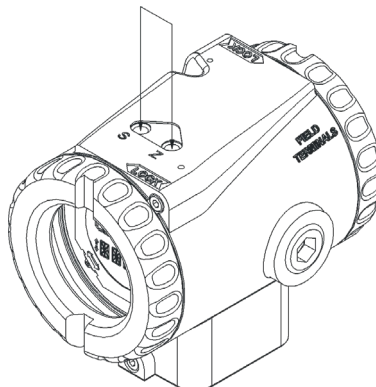

Figure 5.2 – Zero and Span Local Adjustment
Under the identification plate, the transmitter has two holes where the magnetic tool is inserted to set the Local Adjustment. See Figure 5.2.
- Insert the magnetic tool in the ZERO adjustment hole. (See Figure 5.2);